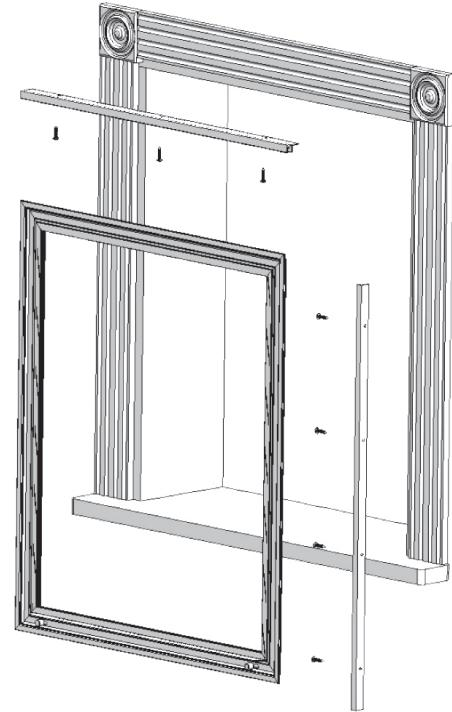

FIGURE 1
- 1 Mark top and side channel locations with a pencil. Measure in 1-1/4" at top and sides and mark (Figure 1).